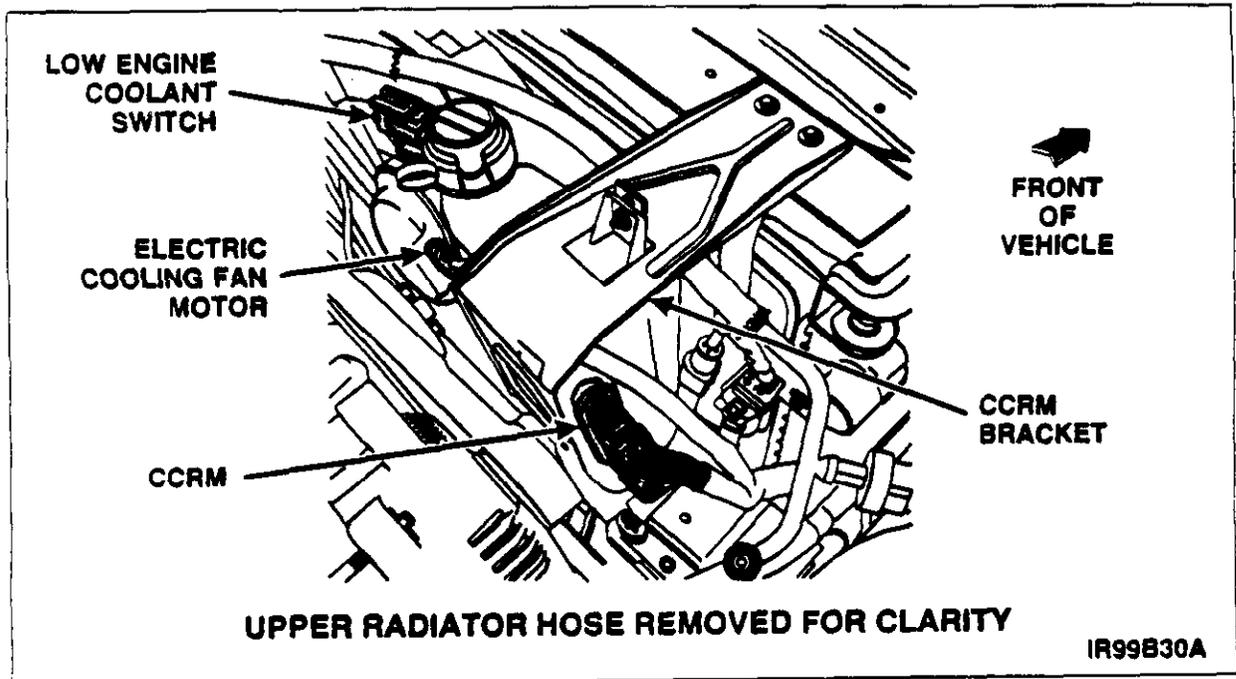

FIGURE 1
3. Disconnect the low engine coolant switch (5.0L engine only). See Figure 1.
4. Disconnect the electric cooling fan motor. See Figure 1.
5. Disconnect the Constant Control Relay Module (CCRM). See Figure 1.
7. Remove the CCRM mounting bracket and the CCRM as an assembly. See Figure 1.